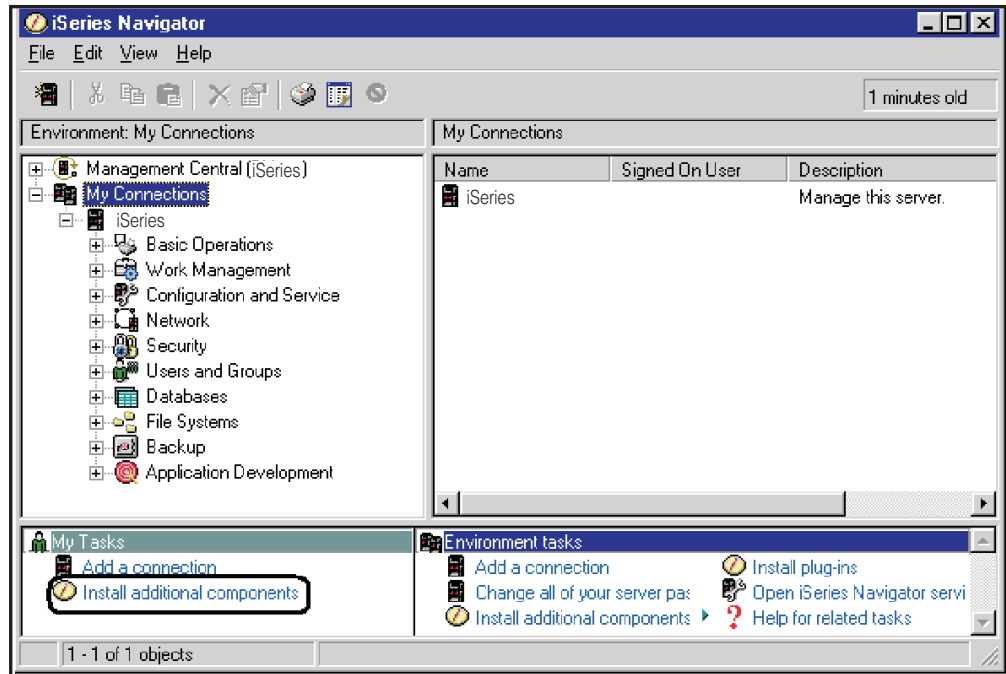

Figure 117. iSeries Navigator Window – Install Additional Components
4. Click **Install additional components** in the task window, this option is circled in Figure 117 on page 229.